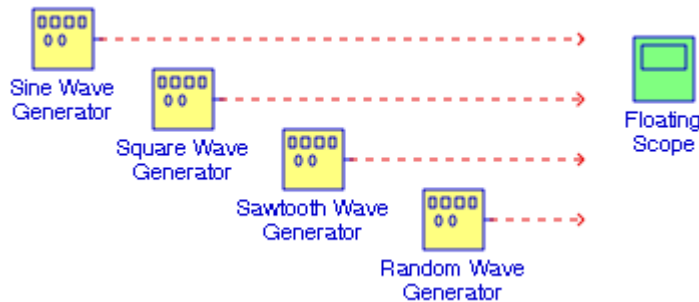

Figure 14.8. Model for Example 14.5
The model shown in Figure 14.8 displays a sine waveform, a square waveform, a sawtooth waveform, and a random signal waveform on a single Floating Scope block with four inputs. All four generators are **Signal Generator** blocks configured to produce and display the four different waveforms. Each specified set at 0.2 Hz frequency, and all other parameters were left in their default states.
2. We return to the model of Figure 14.8 and we select one or more signal (broken) line(s). To select multiple lines, we hold down the **Shift** key while clicking another line.
3. To use a **Floating Scope** during a simulation, we must disable the Signal storage reuse and block reduction optimization options. To disable them, we click **Simulation** on the model in Figure 14.8, we click on the **Configuration Parameters**, we click the **Optimization** field (left pane), and we deselect the **Signal storage reuse** and **Block reduction optimization** parameters.